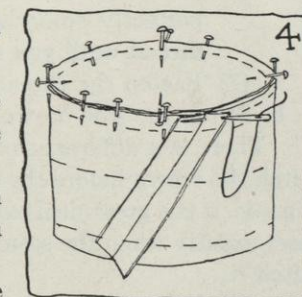

FIG. 4.
- d.* Baste the side crown to the tip right through the basting which is already in the tip (see Figure 4). You will remember that the basting was put at the edge of the tip pattern in Section 2 *e*, above.
- (1) Put a pin about 1 inch in from the edge of the tip (for a shirred side crown usually comes over the tip about 1 inch). (This is a matter of the style of the season; therefore, you must decide for yourself how far the side crown is to come over the tip.)
- (2) Measure the distance from the pin to the bottom of the crown, and jot down that measurement. Let us suppose that measurement is 5 inches.
- (3) Measure up 5 inches from the bottom of the crown block, and at that point put a row of basting stitches. See Figure 4 in Job 42 (page 171), but this time your tip will be smaller because you are measuring up 5 inches.
- (4) Put a pin at direct front, sides, and back of tip.
- (1) Slip the side crown over the block with the white stitch marking the direct back, at direct back of the block, so that the shirrings come against the tip (see Figure 4 A).
- (2) Match white stitches in shirred side crown to pins in the tip on the block (see Figure 4 A) and pin in place at these four places.
- (3) Put at least one more pin between those that are already in place (see Figures 4 B and 4 C).